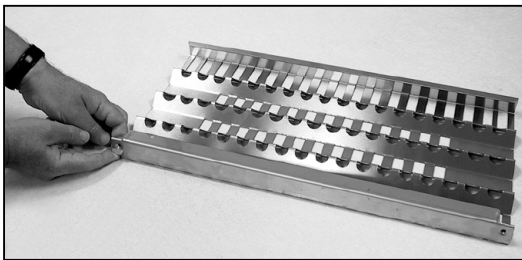

Fig. 38
2. Unlock radiant end cap by pushing it up with two fingers (Fig. 38).
- a) Unlock radiant end cap by pushing it up with two fingers (Fig. 38) or pliers may be used.